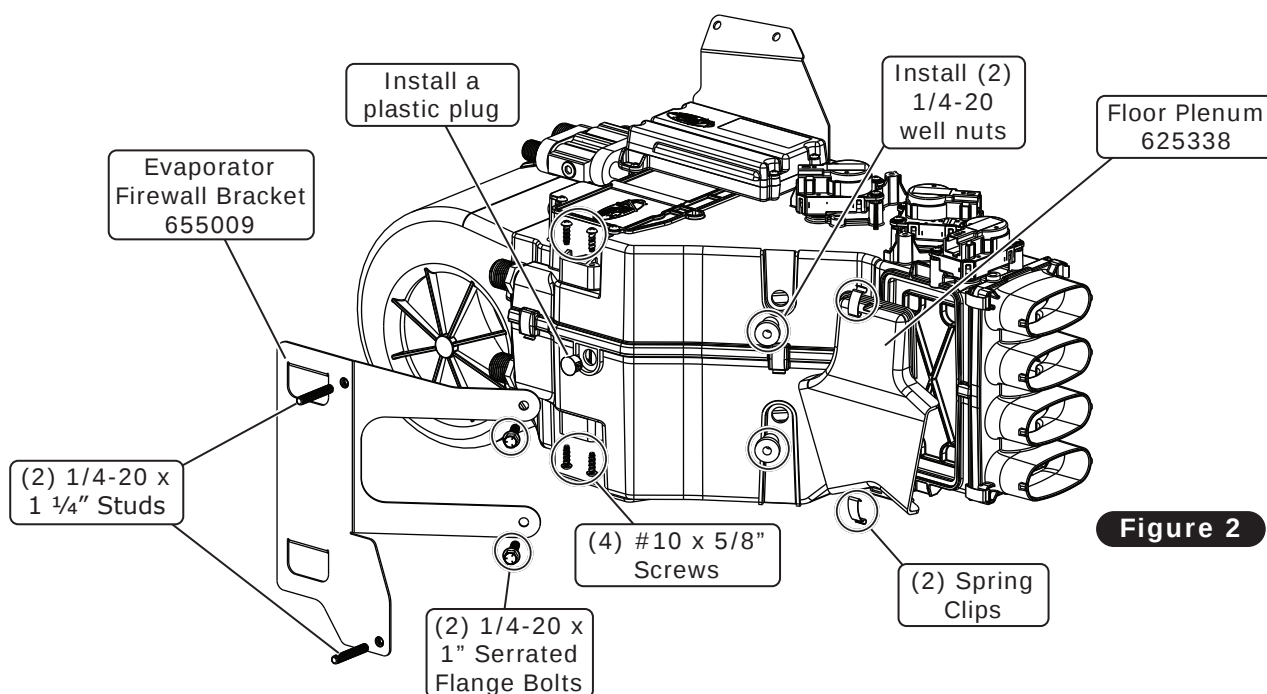

Figure 2
2. From the center of the bottom-left hole on the kick panel cover, measure 1 ½" down. Mark and drill a 5/8" hole for the 7/8" grommet (See Figure 2, below).
1. Install a 7/8" plug into the OEM hole on the firewall (See Figure 2, below).
3. Secure the fresh air cap to the firewall using (2) #14 x 3/4" sheet metal screws (See Figure 2, below).
5. Install a plastic plug into the location shown in Figure 2, below.
6. Install (2) 1/4-20 well nuts as shown in Figure 2, below.
7. Install the floor plenum onto the evaporator module using (2) spring clips (See Figure 2, below).
8. Install the evaporator firewall bracket onto the evaporator module using (4) #10 x 5/8" screws and (2) 1/4-20 x 1" serrated flange bolts (See Figure 2, below).
9. Install (2) 1/4-20 x 1 1/4" studs onto the evaporator firewall bracket as shown in Figure 2, below.
4. Lift the evaporator module up under the dash. Align the studs with mounting provisions on the firewall cover. Temporarily secure it in place using (2) 1/4-20 nuts with star washers from the engine side of the firewall.
6. Place the front evaporator mounting bracket onto the cowl. Using the bracket as a template, drill (2) 3/16" holes in the cowl. Secure it with (2) #14 x 3/4" hex sheet metal screws (See Figure 2, below).
7. Replace the studs in the firewall with (2) 1/4-20 x 3/4" flange head bolts.